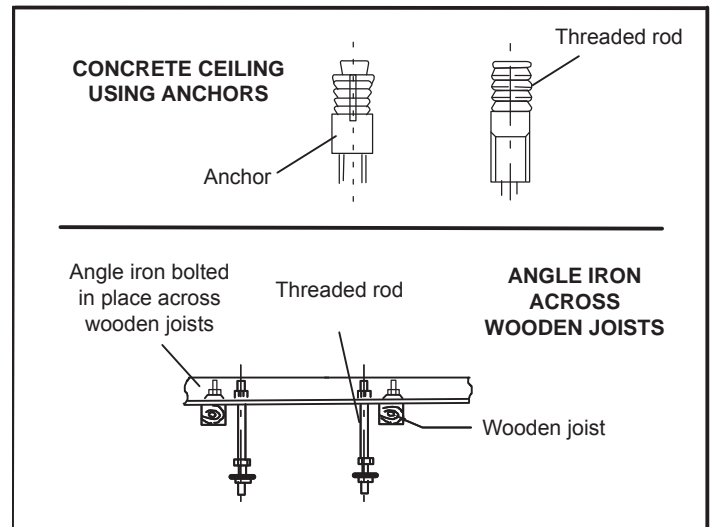

Figure 5. Locate Threaded Rods
- Install suspension rods in the structural ceiling or concrete slab in a suitable location. If the structural ceiling is constructed of concrete, install anchors to accept four suitably sized threaded rods to suspend the indoor unit. If the structural ceiling includes wooden joists, use angle iron or Unistrut channel fixed securely in place to accept the threaded rods. See figure 5.